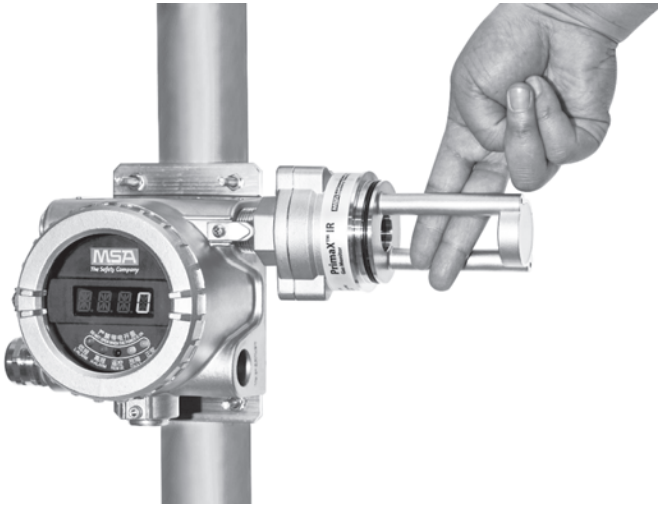

Fig. 18 Light path obscuration
- (2) Place an opaque object [piece of paper, two fingers, etc.] between the light source window and the mirror to completely obscure the light path for two to three seconds [→ fig. 18].